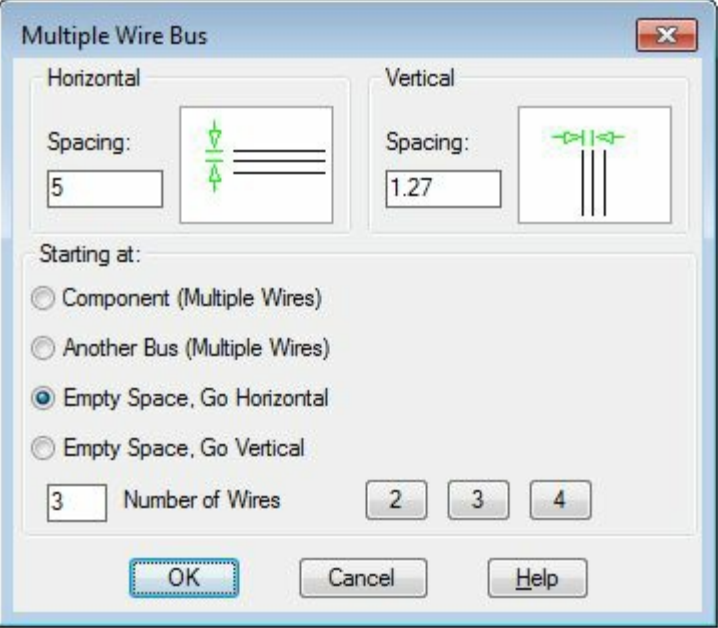

Figure-5. Multiple Wire Bus dialog box
- Click on the **Multiple Bus** tool from the **Insert Wires/Wire Numbers** panel in the **Ribbon**. The **Multiple Wire Bus** dialog box will be displayed as shown in Figure-5.